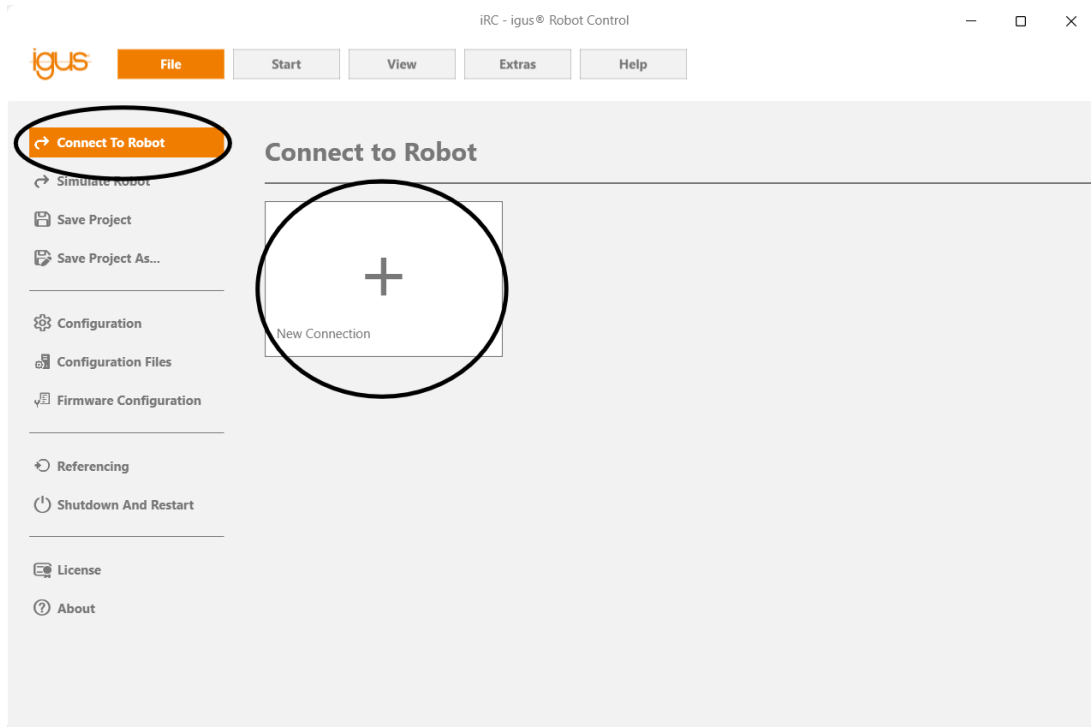

Figure 1: Connect to robot
2. Start the iRC software. At startup, you can either simulate a robot of your choice or connect to your robot. Press "Auto Connect", if your robot is in its original state or choose a custom IP-address, if it has been changed on the robot (see Fig. 1).